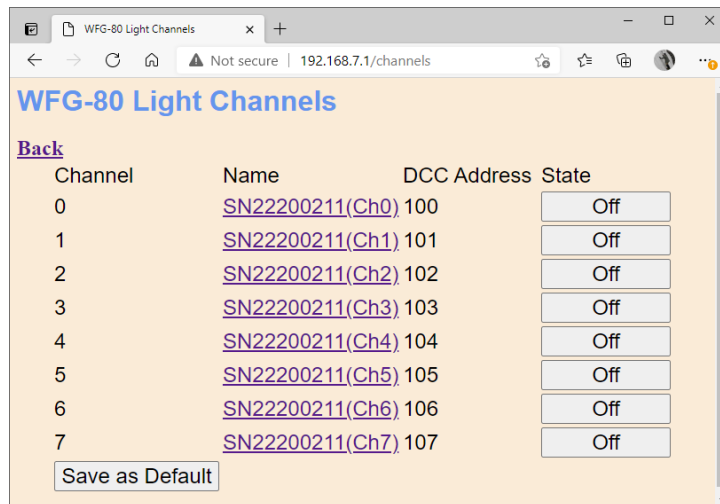

Figure 8 WFG-80 Web Pages – Light Channel List
- (3) To test the lighting channels, click or tap the Light Channels option. You will see the screen in Figure 8. The names of each channel default to the serial number plus the channel number as shown. You can change these names later.